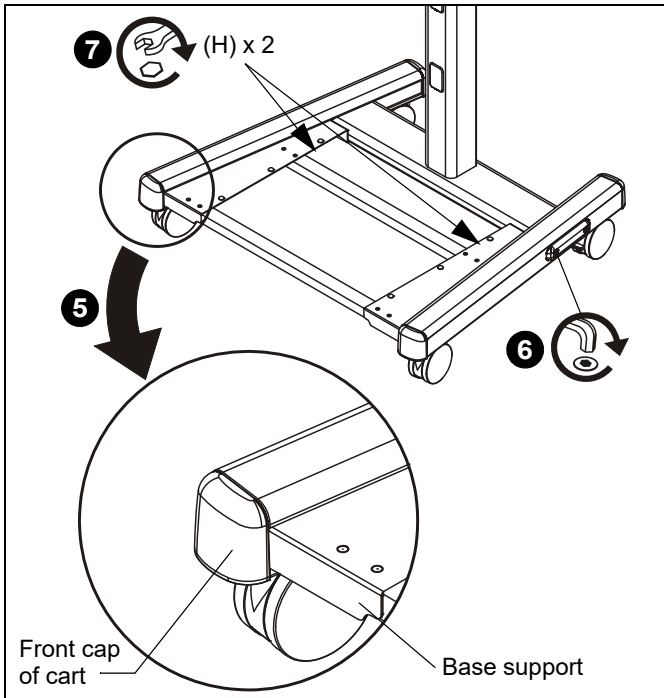

Figure 4
5. Push base support back until it snaps in behind front cap of cart base. (See Figure 4)
6. Tighten button head cap screw on cart side which was loosened in Step 2. (See Figure 4)
7. Tighten two 5/16-18 x 1/2" square head cap screws (H) from Step 1 further into cart until base support is secured to cart. (See Figure 4)